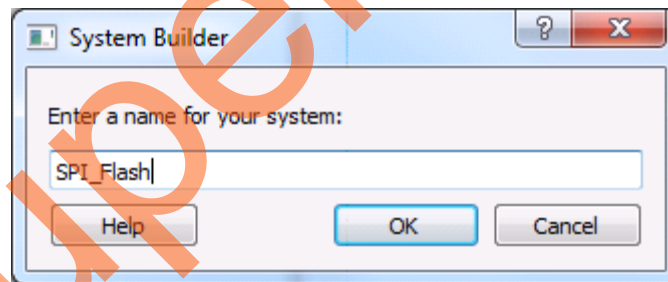

Figure 5 • Create New System Builder Dialog Box
8. **Enter a name for your system**, enter **SPI_Flash** as the name of the system and click **OK**. The **System Builder** dialog box is displayed with the **Device Features** page open by default, as shown in Figure 5.